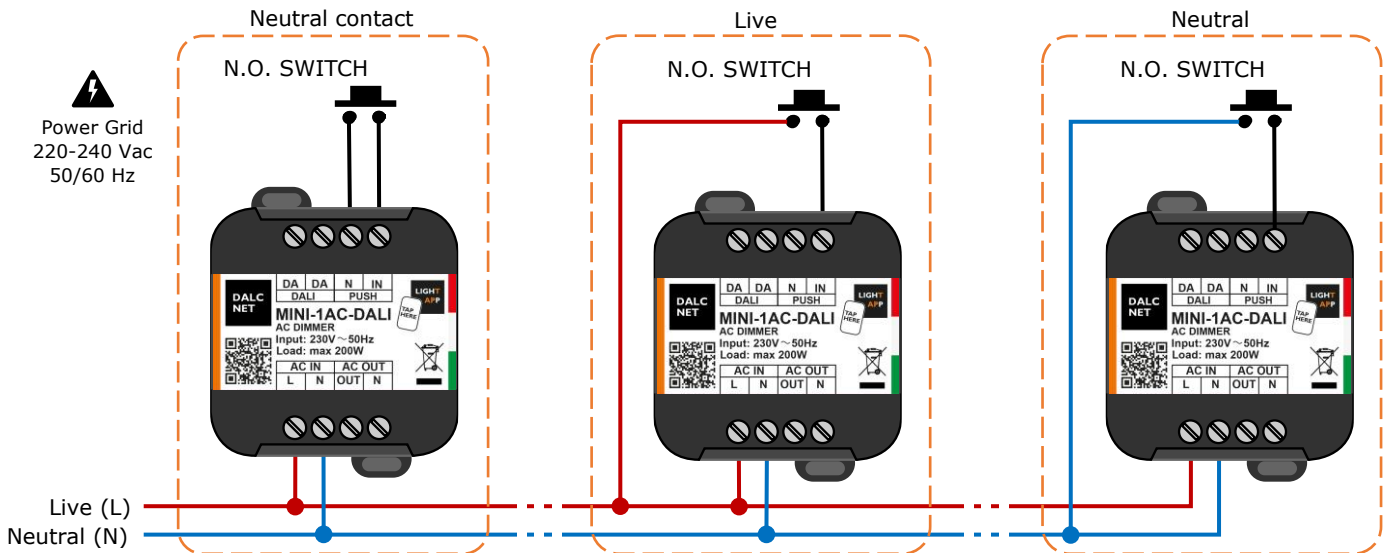

Figure 3: Local Command wiring diagram
- Local control wiring:** connect the N.O. button to the "IN" and "N" terminals of the "PUSH" input respecting one of the wirings shown in the connection diagram in Figure 3.
- Power supply wiring:** Connect the 230 Vac @ 50 Hz mains power supply to the "AC IN" terminals respecting the Live (L) and Neutral (N) convention to terminals "L" and "N" respectively.
Figure 3 shows three different wiring possibilities for the local control: N.O. switch connected as a Neutral (N) contact, connected to Live (L) or Neutral (N).
**ATTENTION!** The PUSH-N terminal is internally connected to the AC IN-N terminal, i.e. to the Neutral (N). Therefore, it is to be considered to all intents and purposes a terminal with a 230 Vac mains voltage. Before proceeding with the connection, make sure that the mains voltage is disconnected from the system.